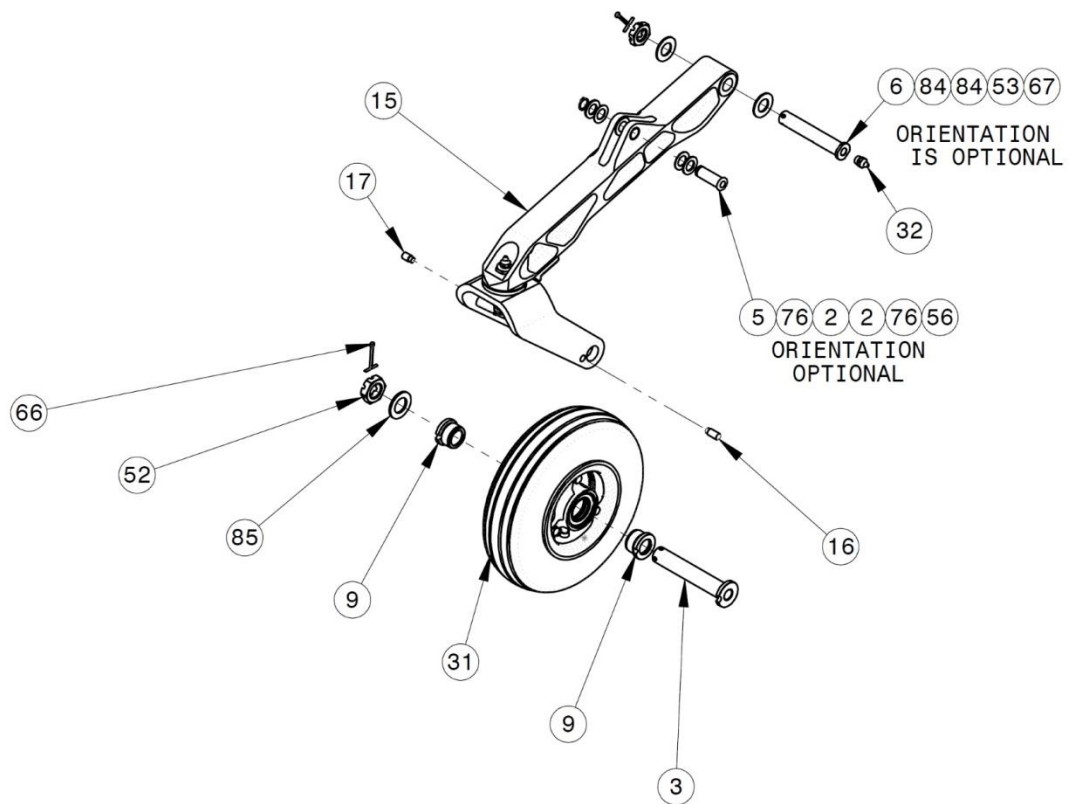

Figure 4
- 5) Prior to attaching Oleo Assembly to the Lower Gear Arm (Fig. 4) ensure the gear arm moves freely up and down with minimal resistance.